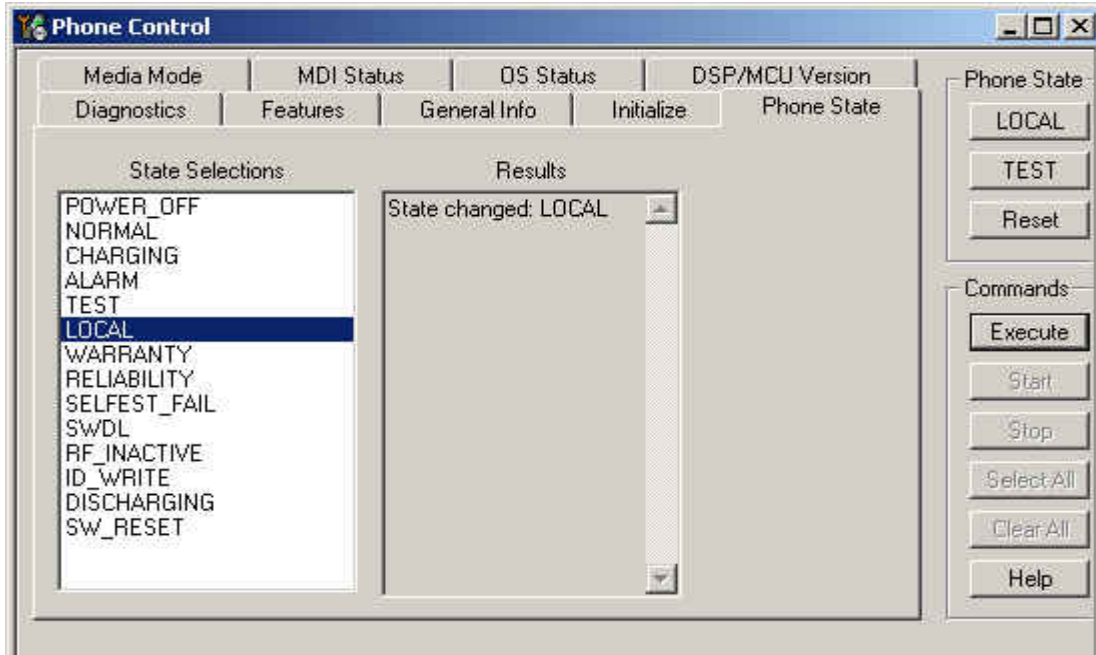

Figure 7: Phone Control dialog box
4. On the **Phone Control** dialog box, click the **LOCAL** button in the **Phone State** area to put the mobile terminal into Local Mode. (See Figure 7 on page 13.)
The **Phone Control** dialog box appears. (See Figure 7 on page 13.)